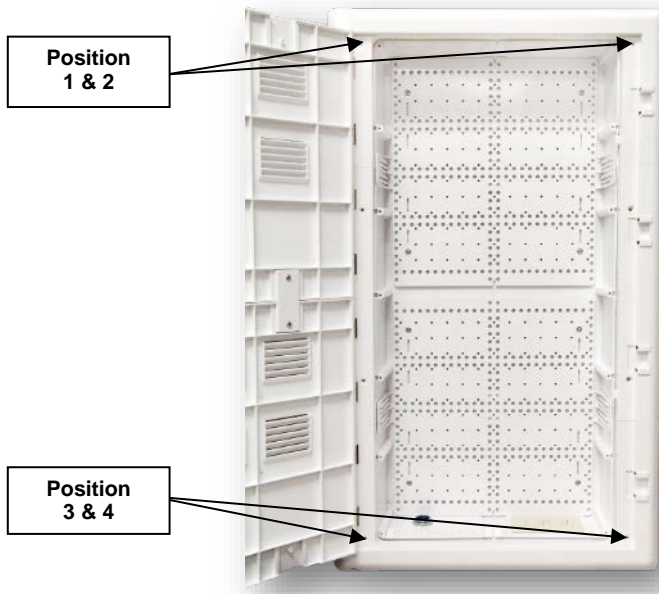

Figure 4
9. Install cover over sheet rock and installed base aligning the cover's tongue to inside of base groove. Install #8 x 2" pan head screw (provided) in position 1 (upper left corner) (Figure 4).
10. Continue installing remaining pan head screws in the remaining corners, in the order shown in figure 4 below making sure not to overtighten mounting screws.